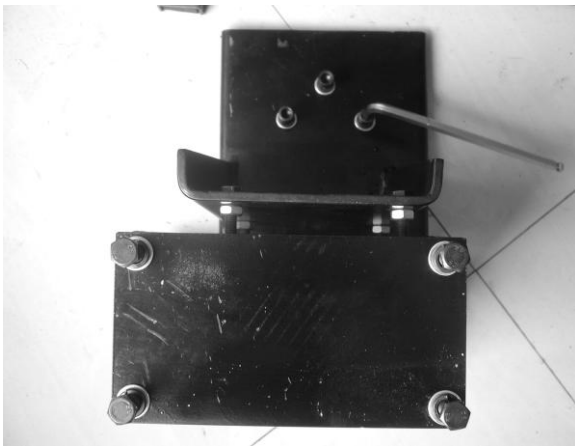

FIG 29
6.1.2 Detach the package of the PL330 assistant. Check the accessory according to the pack list. After confirmation, take out the base assembly (FIG 29) and install the screw and washer on it.